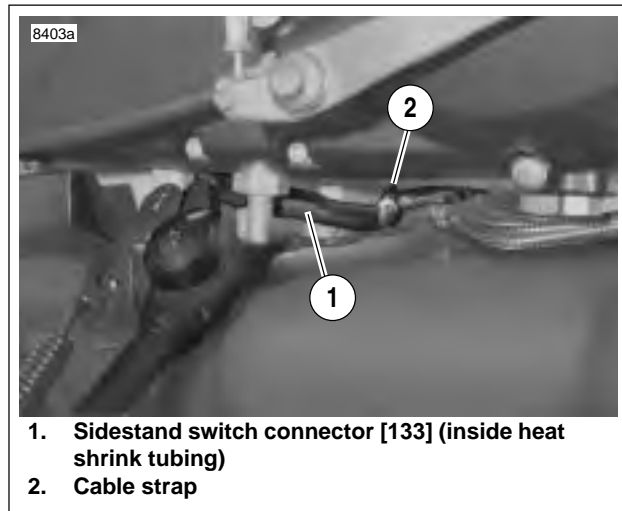

Figure 7-74. Sidestand Switch Connector [133]
12. See Figure 7-74. Remove heat shrink tubing and disconnect sidestand switch [133] (1).
11. See Figure 7-74. Connect sidestand switch connector [133] (1). Install heat shrink tubing. Install cable strap (2) securing sidestand switch wiring to sidestand switch bracket.